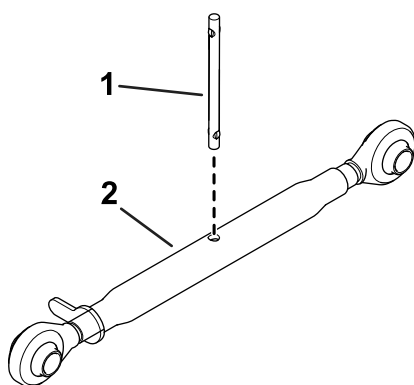

Figure 5
1. Install the rod to the top link (Figure 5).